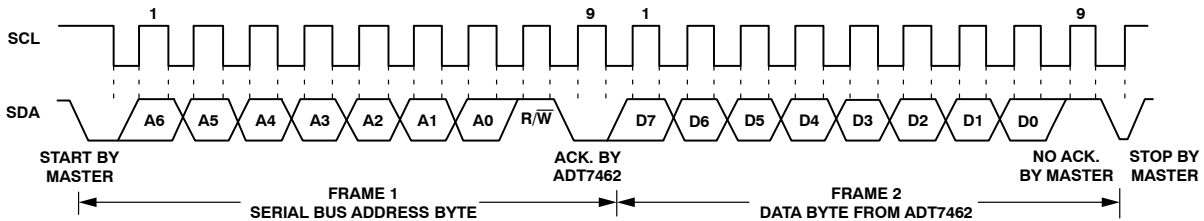

Figure 26. Reading Data from a Previously Selected Register
the data byte read from the data register (see Figure 26).
- If the address pointer register is known to be already at the desired address, data can be read from the corresponding data register without first writing to the address pointer register (see Figure 26).